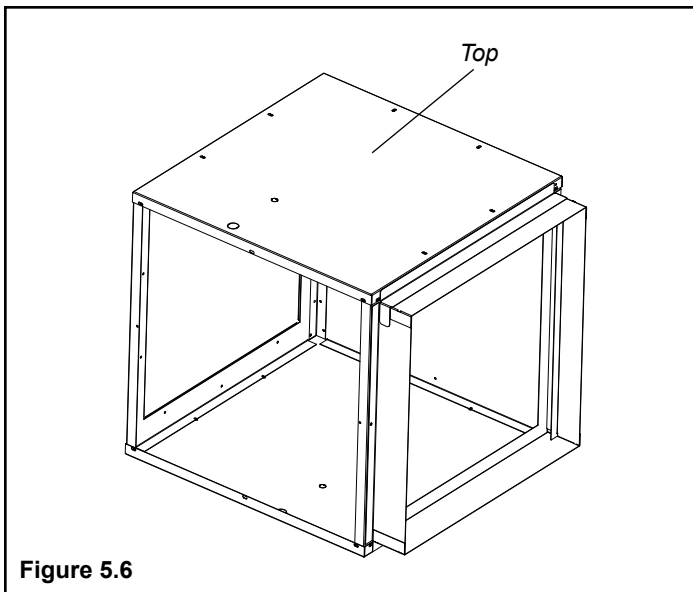

Figure 5.6
5. Place the top on the filter box as shown in Figure 5.6. At this time all Tek screws can be inserted around the filter box.
**Note:** Except for the (6) screws that attach the blower access panel in place.